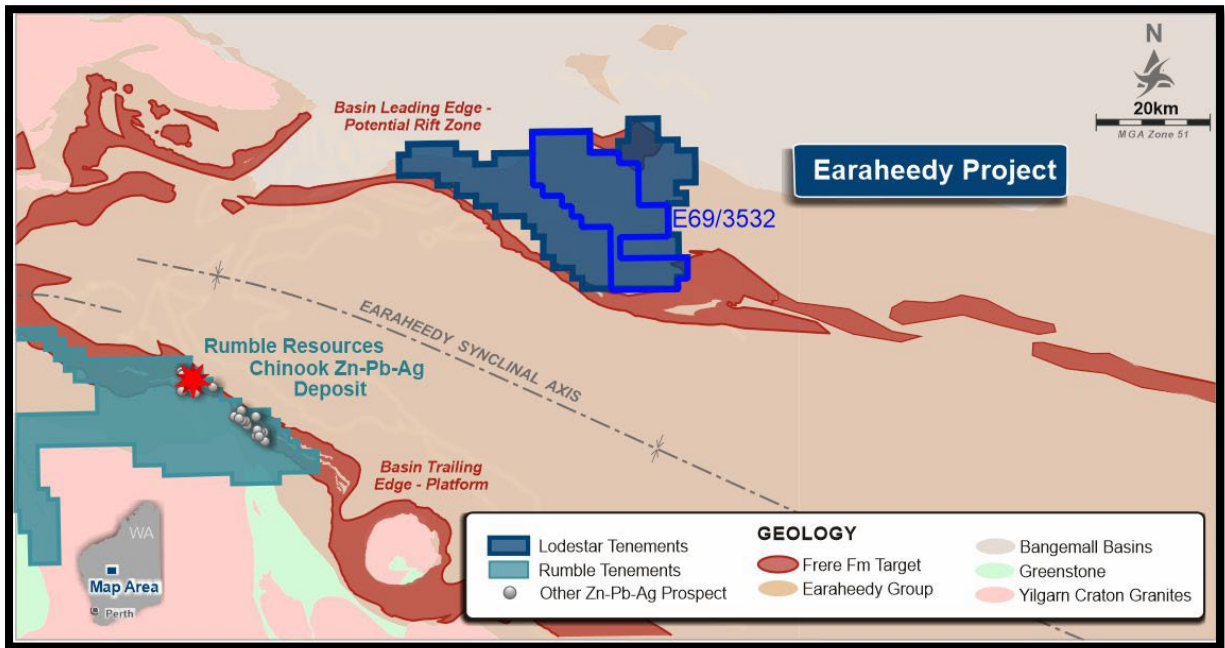

Figure 1: Location of E69/3532 in relation to the Earraheedy Project.
Lodestar Minerals Limited (**Lodestar or the Company**) (ASX:LSR) is pleased to report the grant of E69/3532 (Figure 1) on 16th October 2024 after a State Deed was signed by the Mungarlu Ngurrarankatja Rirraunkaja Aboriginal Corporation, Tarlka Matuwa Piarku Aboriginal Corporation and the State of Western Australia following a seven (7) years wait.